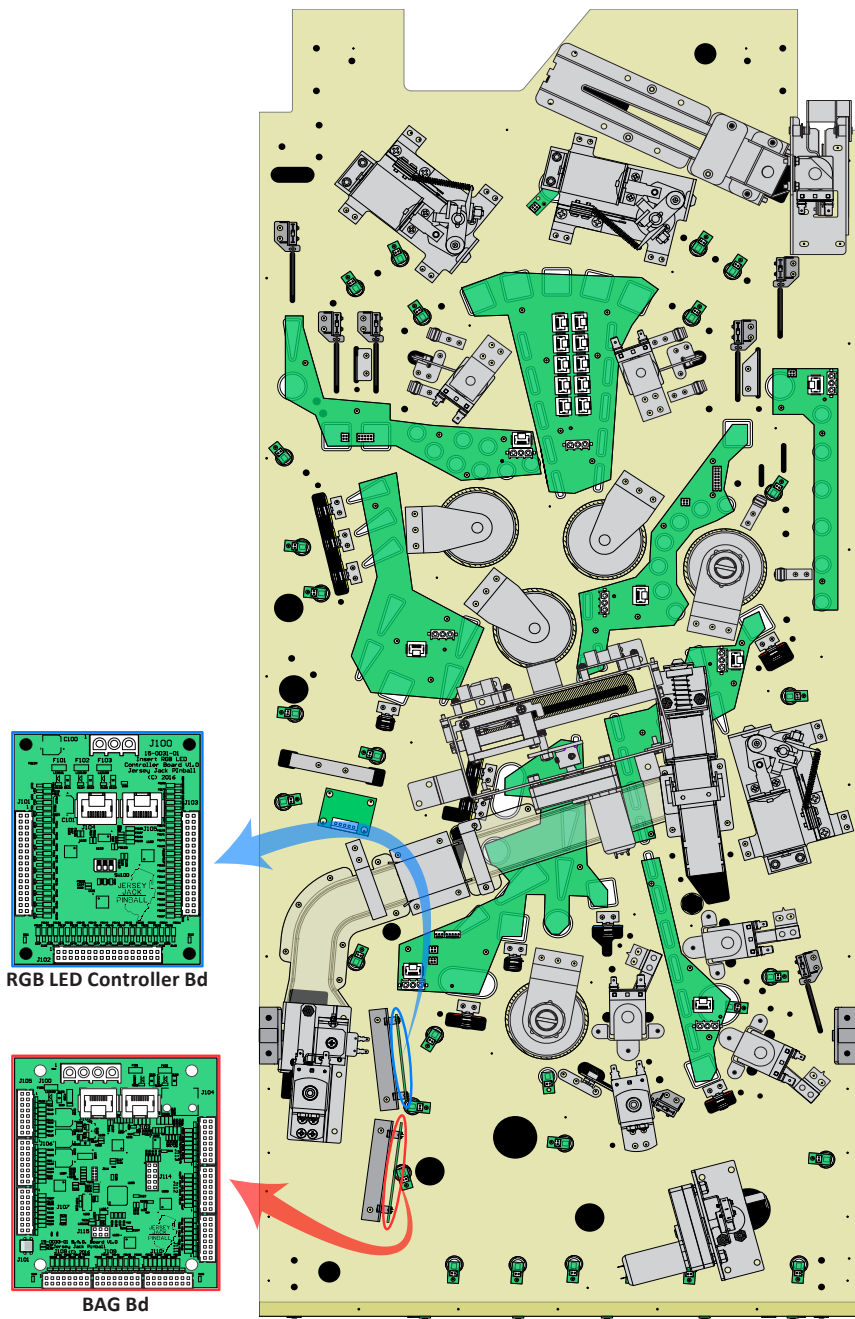

Figure E3. Dialed In lighting system controller boards.
The communications/control hub is the Bus, Accelerometer and GI (BAG) board; it is mounted, vertically, under the upper left area of the playfield (circled in red in figure E3). An on-board microcontroller receives data/commands over a USB connection to the CPU board (J101). Controls are then sent out, over an inter-integrated circuit (I2C) bus, to the game's light boards - and more, if needed. Communicating over an I2C bus, between printed circuit boards (J102, J103), adds a great deal of flexibility to the system. Simultaneous control of a wide variety of device types is now possible.
In Dialed In, the eight large RGB LED PCBs (under the playfield), the Smartphone RGB LED PCB (inside the Smartphone) and an RGB LED Controller board (circled in blue in figure E3) are used to control the game's feature lighting. 4VDC is run through these boards to provide power to all of the RGB LED boards around the playfield (above and below). This 4VDC is supplied by the 7.5/4VDC Power Supply, located inside the backbox PCBs EMI shield (item 2, pg C-46 of this manual). Each RGB LED Controller board can control up to 24 RGB LEDs, 8 through each of 3 driver connectors (**J101-J103**). Up to 8 individually addressable (0 through 7) RGB LED Controller boards can be used in a game. Controller board addresses are set using the 3-bank dip switch labeled **SW100**. In Dialed In, the RGB LED Controller board is set to address 0 (**SW100** -> 000).